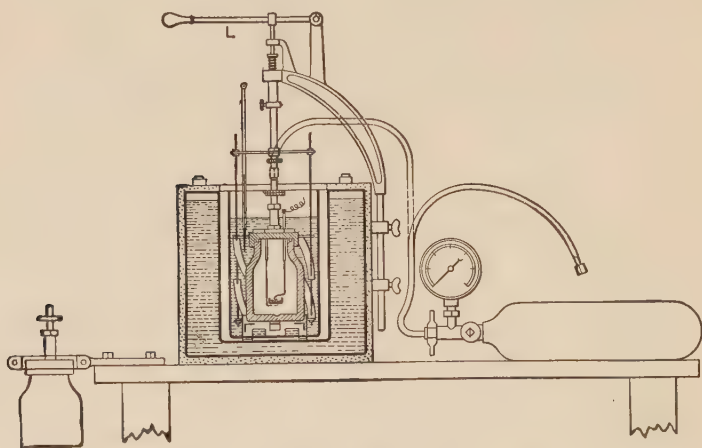

FIG. 13. — Bomb calorimeter. Oxygen for combustion is supplied from tank at right.
11. The fuel value of foods and fuels. The amount of heat given out during the combustion of coal or of a piece of bread can readily be determined with an apparatus known as the **bomb calorimeter**, Fig. 13. This has an inner chamber where the wood or fuel can be placed with compressed oxygen and then set on fire by means of an electric current.